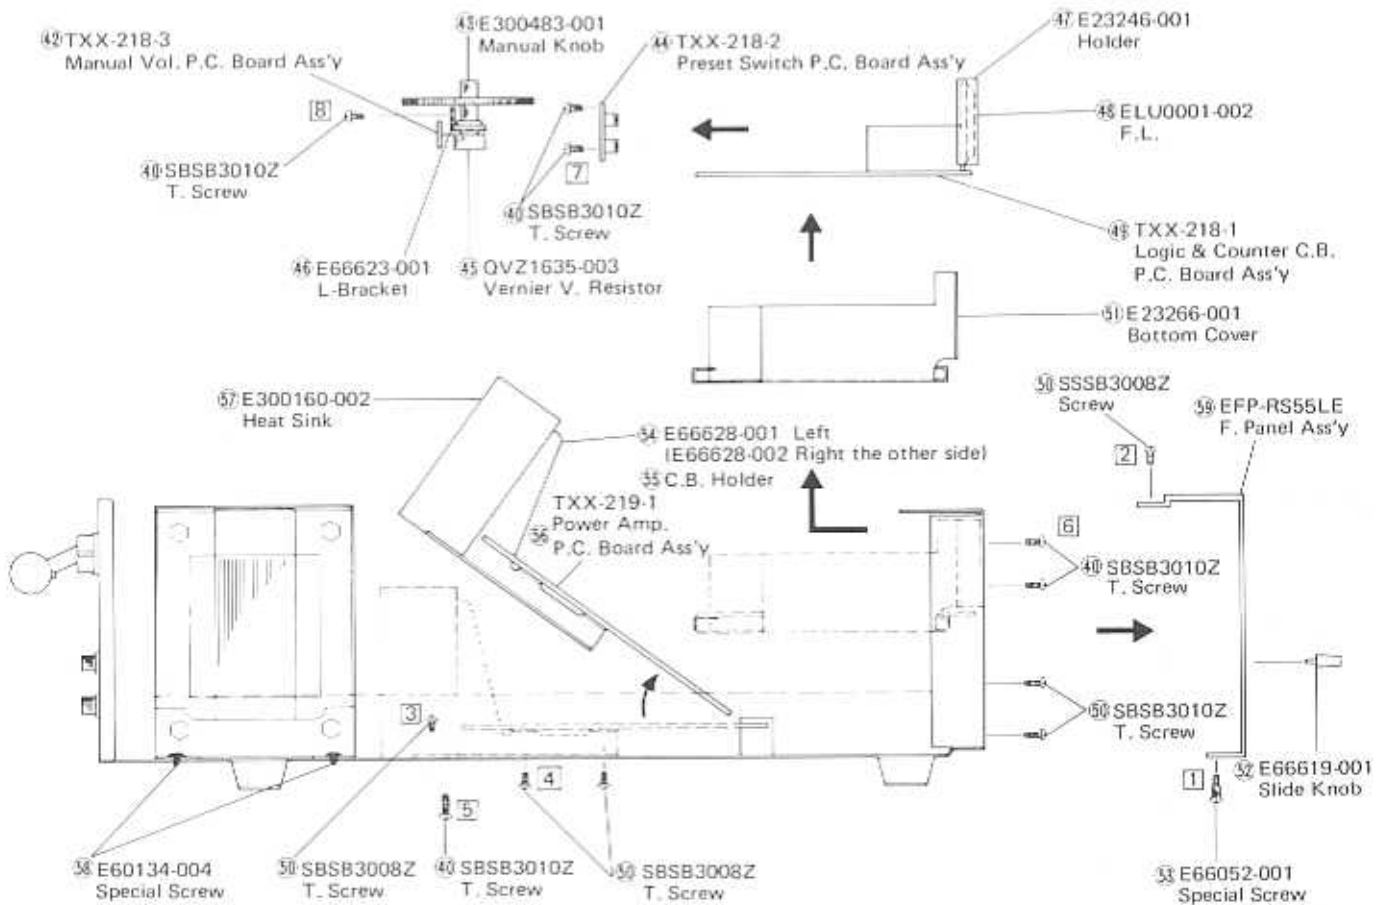
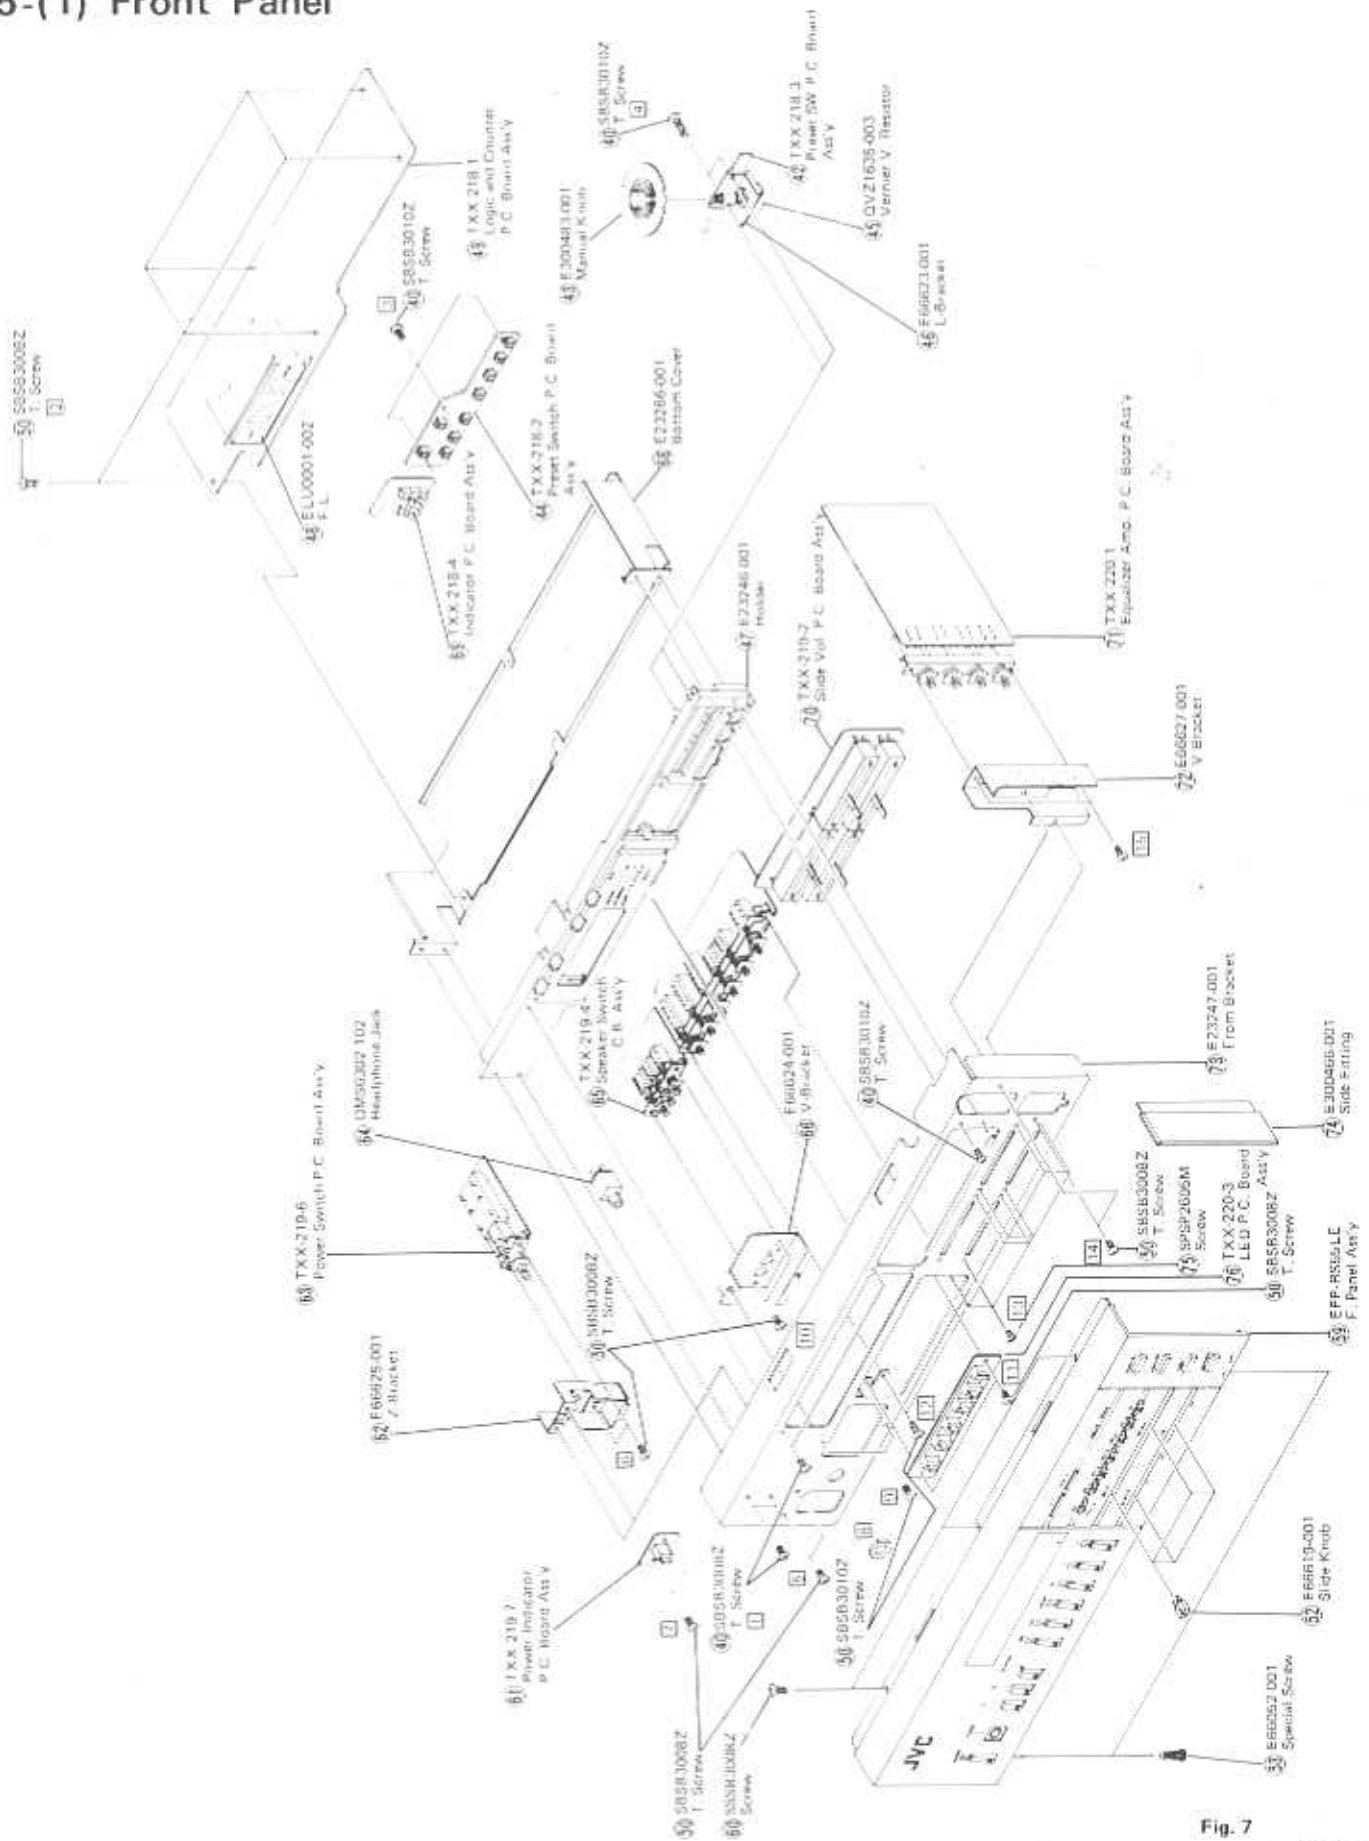

Fig. 6
Fig. 7
1. Remove 3 Screws 1 of Fig. 6
2. Remove 3 Screws 2 of Fig. 6
1. Remove 2 screws 3 of Fig. 6.
2. Remove 4 screws 4 of Fig. 6.
3. Remove 2 screws 5 of Fig. 6.
4. Pull the C.B. as shown Fig. 6 out.
2. Remove 6 screws [1] of Fig. 7 ([6] of Fig. 6) to take the Holder with this P.C. Board Ass'y
3. Remove 2 screws [4] of Fig. 7 and take the TXX-218-3 Manual Vol. P.C. Board Ass'y off.
4. Remove 5 screws [2] of Fig. 7 from the Holder.
- Remove 3 screws [3] of Fig. 7, ([7] of Fig. 6)
- Remove 2 screws [4] of Fig. 7 ([8] of Fig. 6).
1. Remove 2 screws [5] of Fig. 7 to take Z-Bracket with Power SW P.C. Board Ass'y
2. Remove 2 screws [6] of Fig. 7.
2. Remove 2 screws [7] of Fig. 7.
- Remove 1 nut screw [8] of Fig. 7.
1. Remove 2 screws [9] of Fig. 7 to take V-Bracket with this C.B.
2. Remove 2 screws [10] of Fig. 7.
- Remove 2 screws [11] of Fig. 7.
- Remove 2 screws [12] of Fig. 7.
- Remove 8 screws [13] of Fig. 7.
1. Remove 2 screws [14] of Fig. 7 to take V-Bracket with this C.B.
2. Remove 2 screws [15] of Fig. 7.